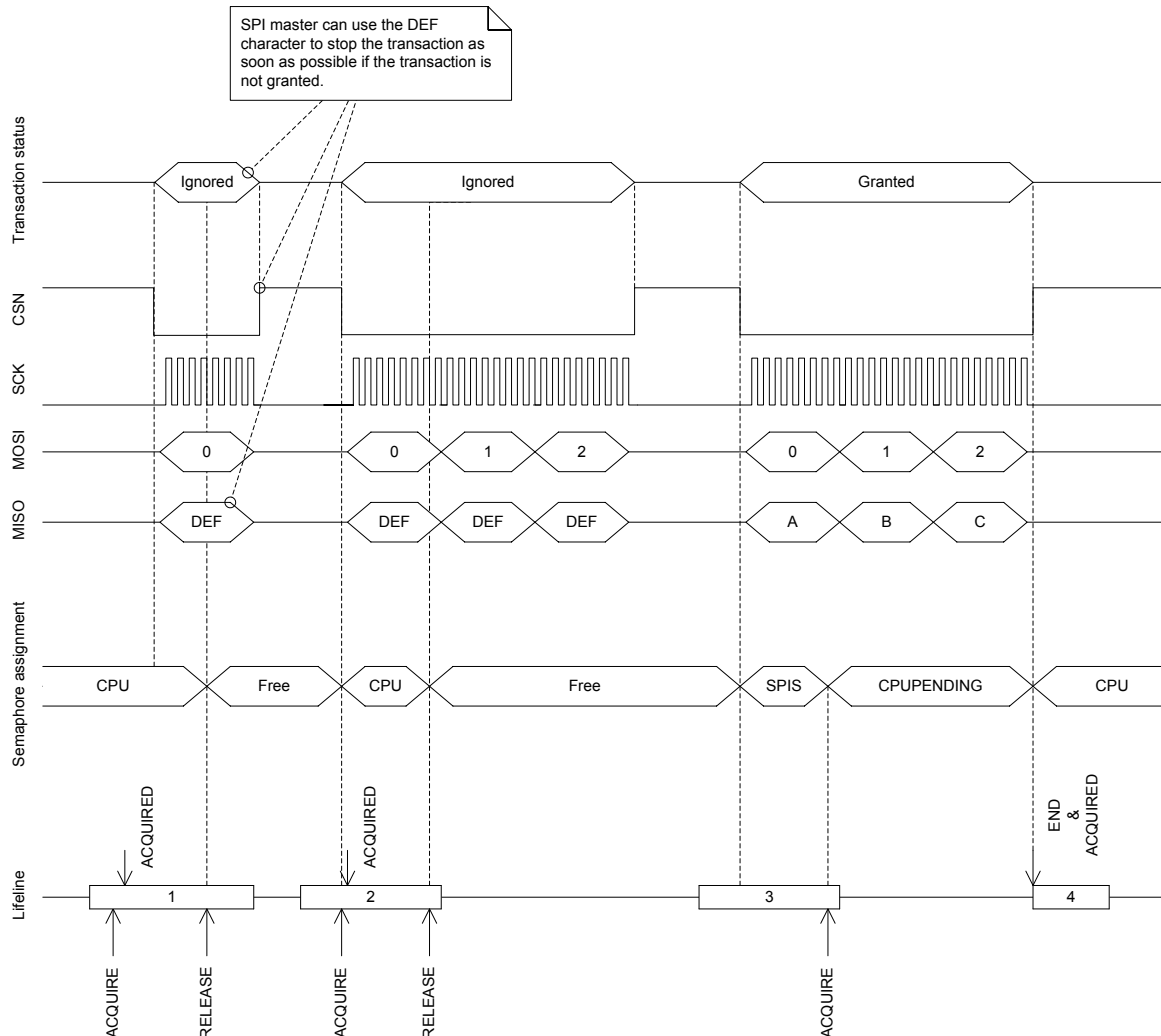

Figure 74: SPI transaction when shortcut between END and ACQUIRE is enabled
See Figure 74: SPI transaction when shortcut between END and ACQUIRE is enabled on page 294.
Before the CPU can safely update the RXD.PTR and TXD.PTR pointers it must first acquire the SPI semaphore. The CPU can acquire the semaphore by triggering the ACQUIRE task and then receiving the ACQUIRED event. When the CPU has updated the RXD.PTR and TXD.PTR pointers the CPU must release the semaphore before the SPI slave will be able to acquire it. The CPU releases the semaphore by triggering the RELEASE task. This is illustrated in Figure 74: SPI transaction when shortcut between END and ACQUIRE is enabled on page 294. Triggering the RELEASE task when the semaphore is not granted to the CPU will have no effect.
The SPI slave will try to acquire the semaphore when CSN goes low. If the SPI slave does not manage to acquire the semaphore at this point, the transaction will be ignored. This means that all incoming data on MOSI will be discarded, and the DEF (default) character will be clocked out on the MISO line throughout the whole transaction. This will also be the case even if the semaphore is released by the CPU during the transaction. In case of a race condition where the CPU and the SPI slave try to acquire the semaphore at the same time, as illustrated in lifeline item 2 in Figure 74: SPI transaction when shortcut between END and ACQUIRE is enabled on page 294, the semaphore will be granted to the CPU.